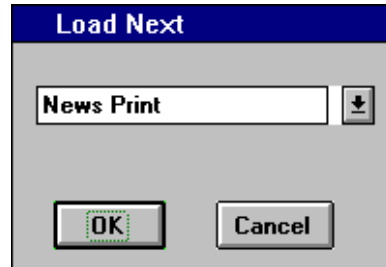

Figure 7-14 "Load Next" Pop-Up Window
1. Click the "Load Next" push-button. A "Load Next" pop-up window (see Figure 7-14) appears.